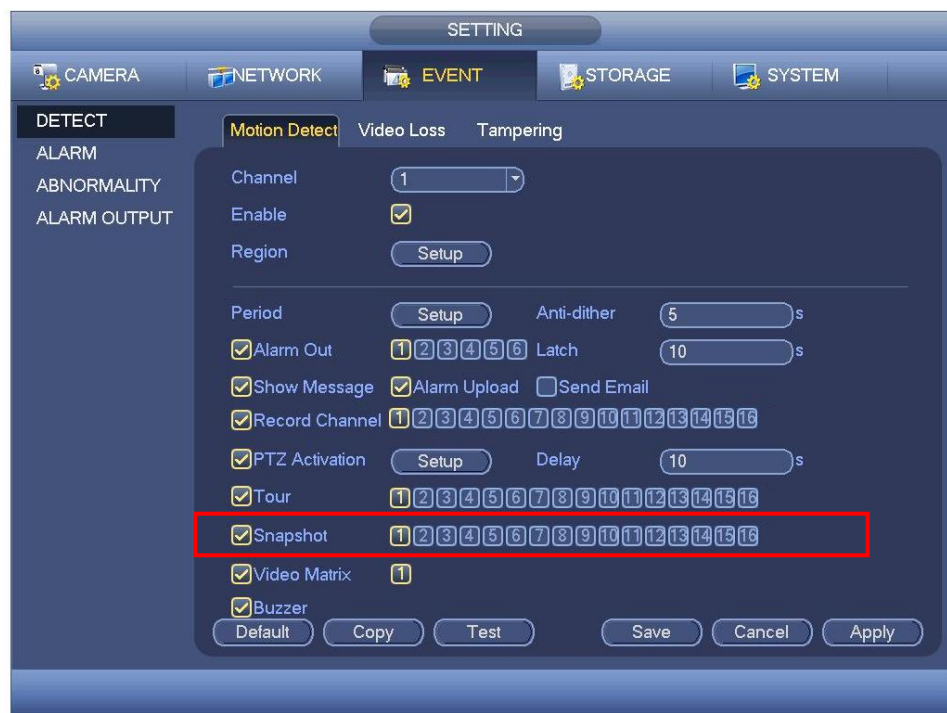
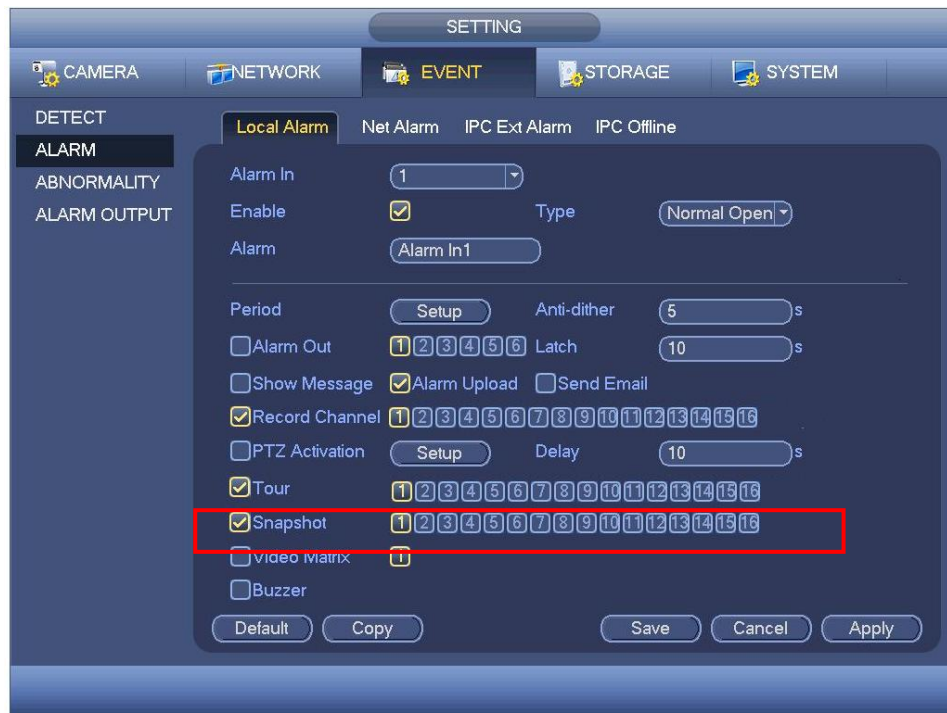

Figure 4-135
Figure 4-136
- In main menu, from Setting->Event->Detect, please enable snapshot function for specified channels (Figure 4-135). Or In main menu, from Setting->Event->Alarm (Figure 4-136) please enable snapshot function for specified channels.